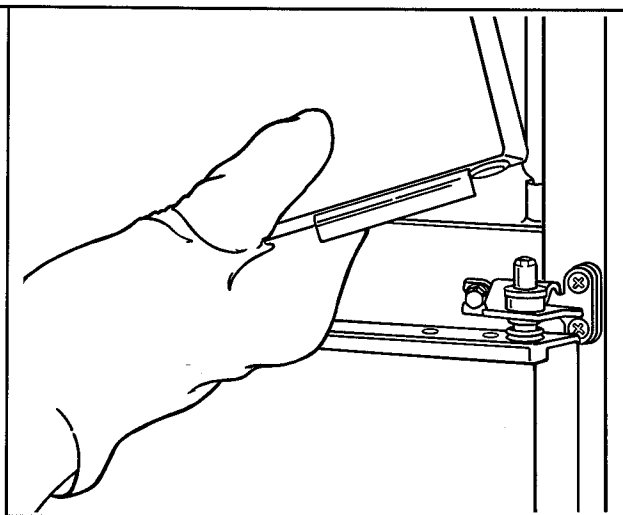

Figure 23
b. Place door on cabinet by fitting bottom right socket over pin on center hinge. See Figure 23.